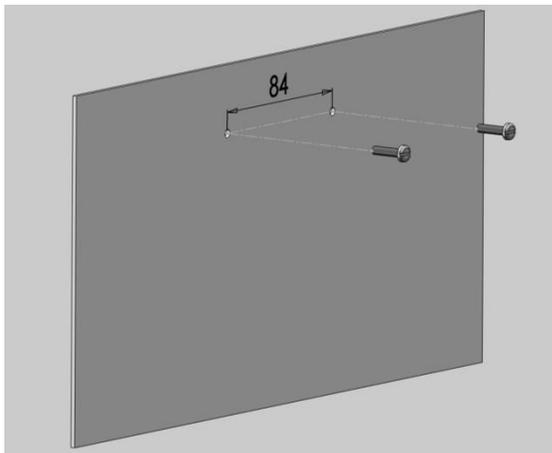

Fig1
1. Screw two suitable screws to the wall. The screws should be in a horizontal position and with a distance of 84mm. The distance between the screw head and the wall should be approximately 6mm. This could be adjusted depending on the wall structure. Fig 1.